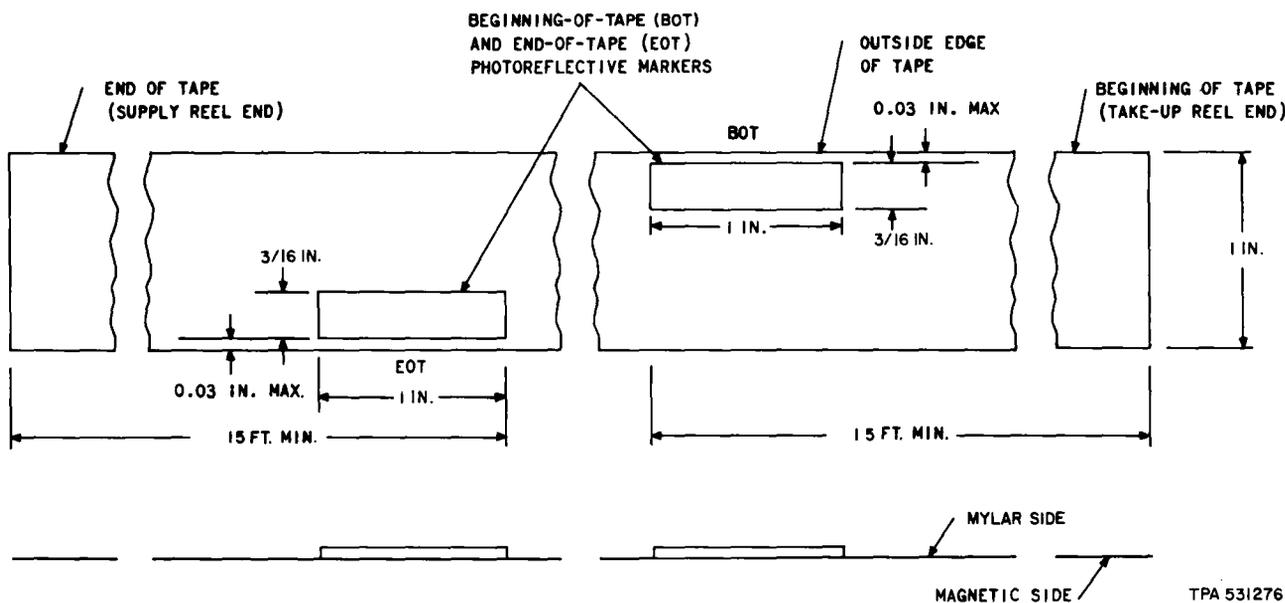
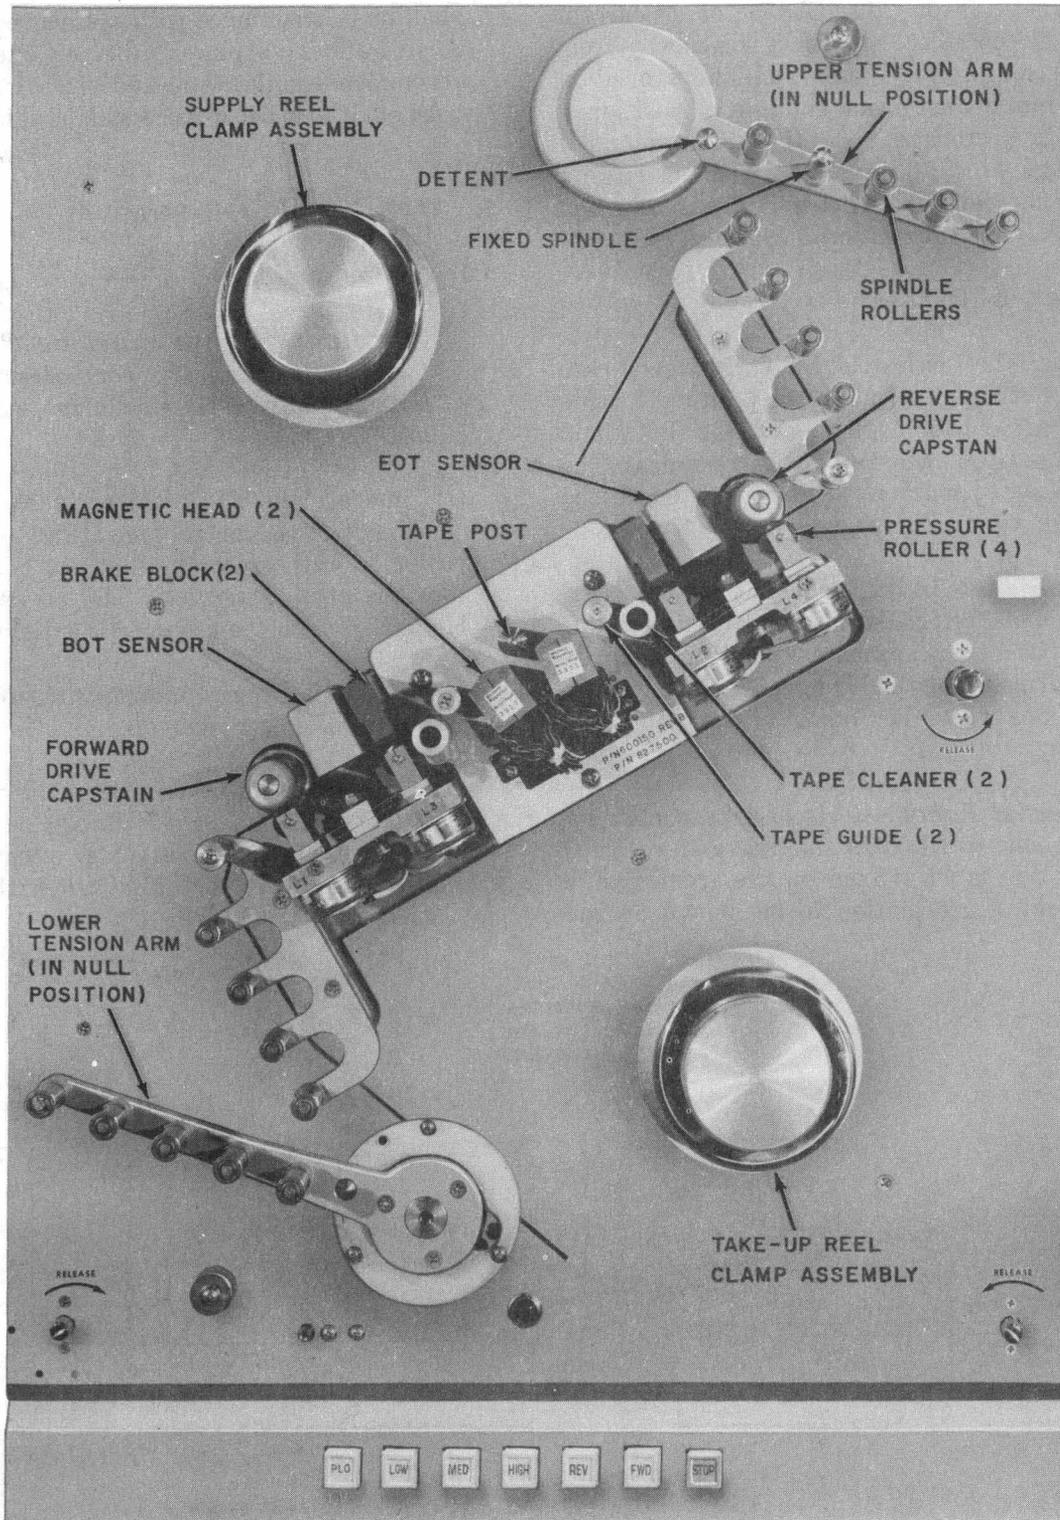
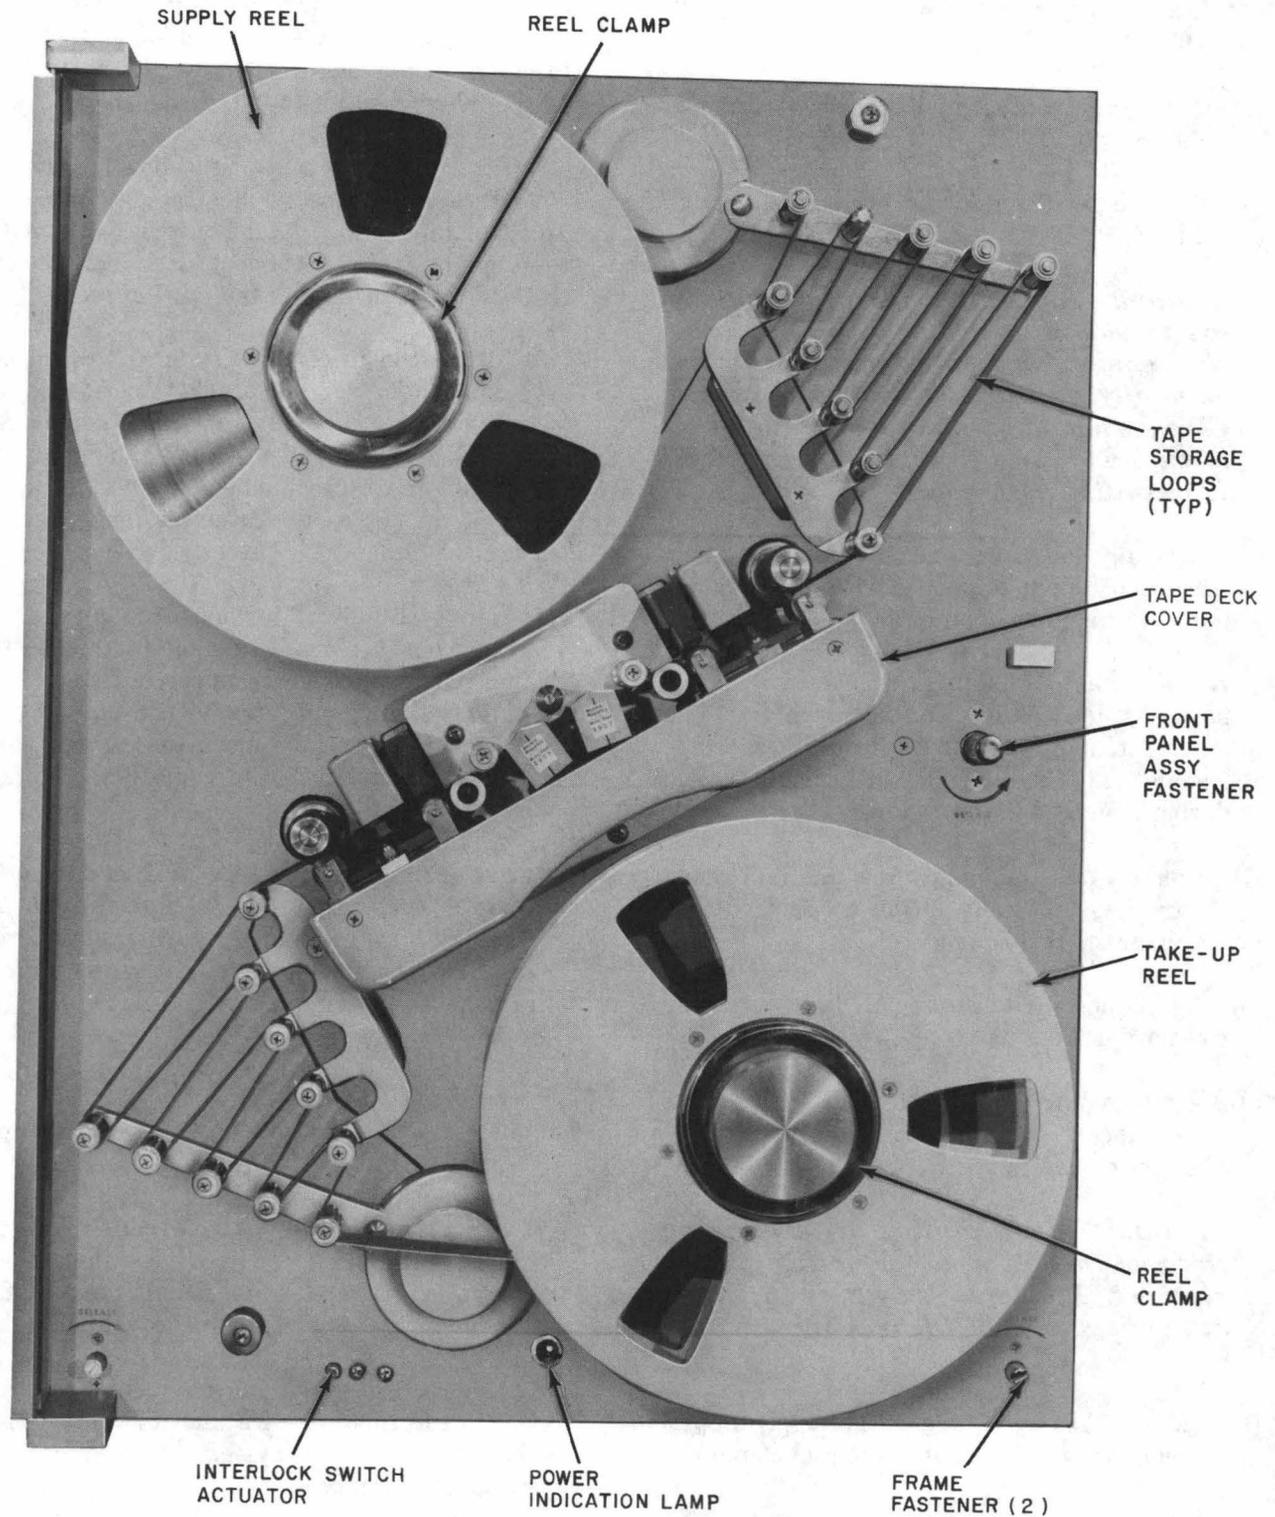
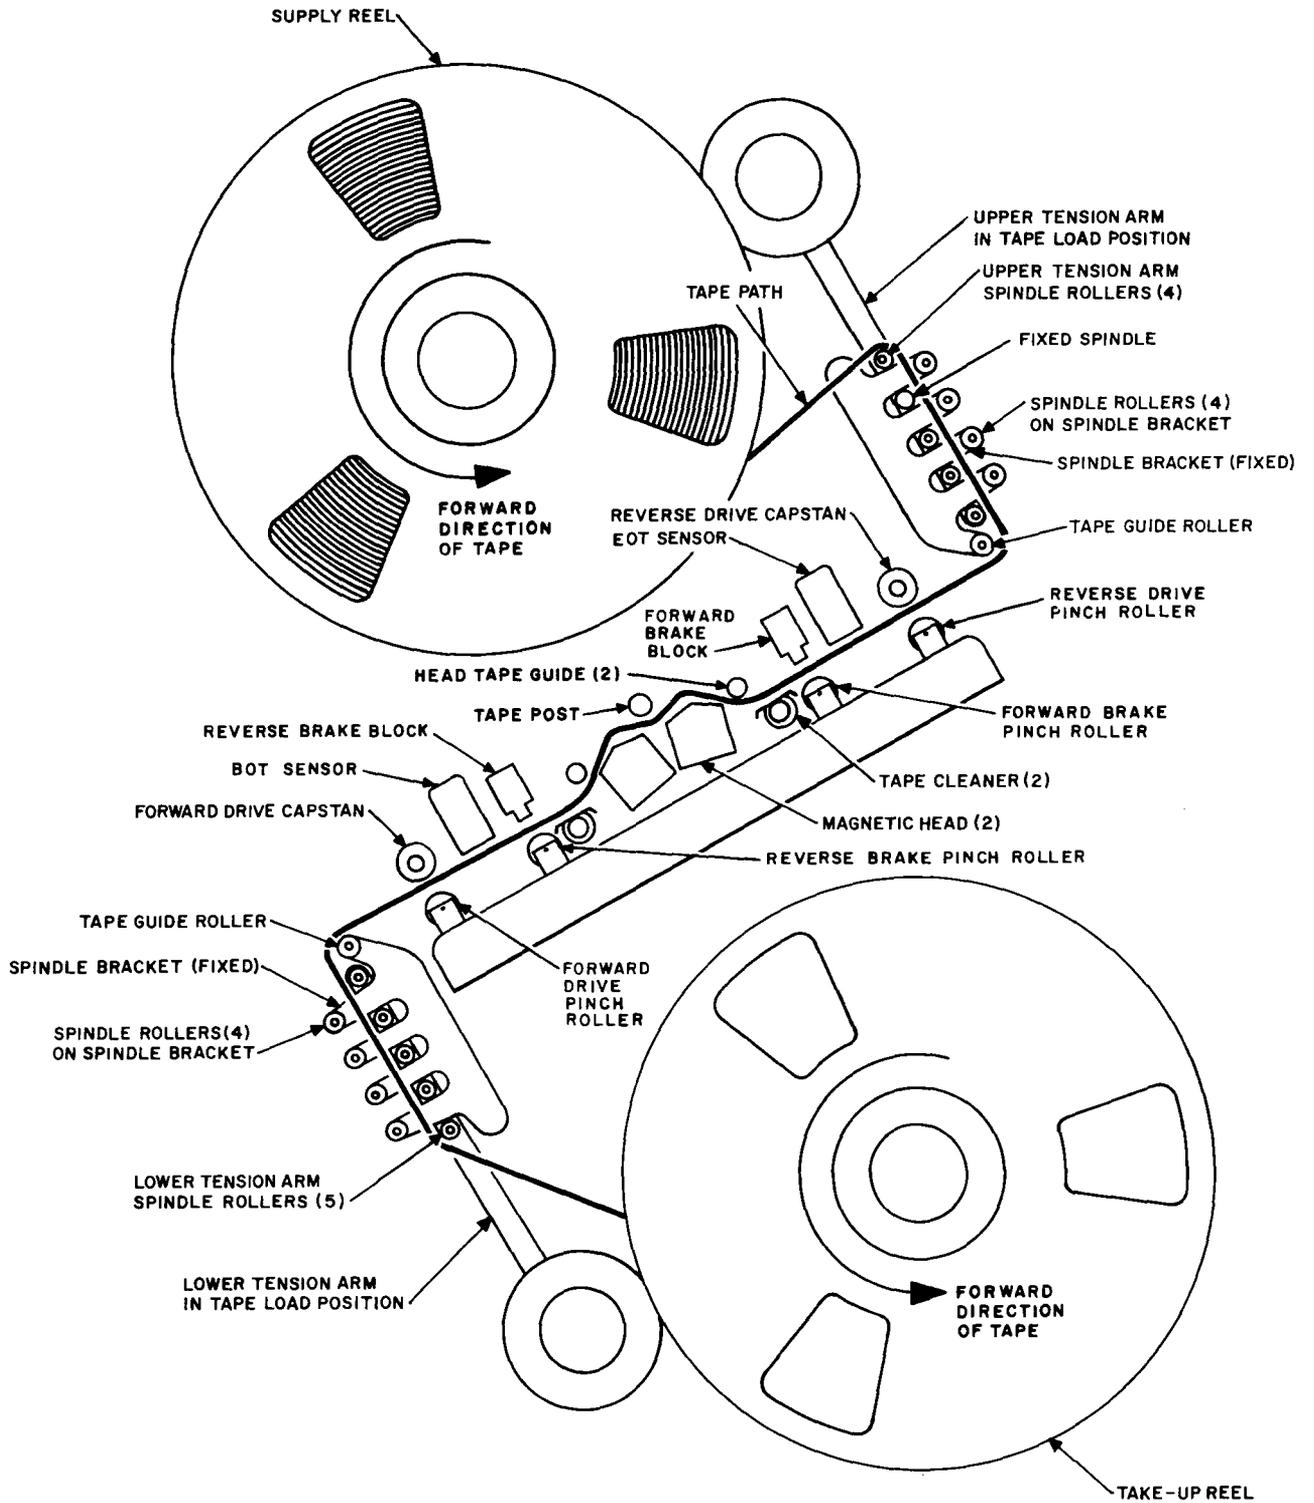

Fig. 2—Photorefective Marker Placement on 1-Inch Magnetic Tape
Fig. 3—KS-19326 L1 Recorder With Tension Arms in Center (Null) Position and Reels Removed
Fig. 4—KS-19326 L1 Recorder in Operating Position With Tape Loaded and Cover Door Open
Fig. 5—KS-19326 L1 Recorder Tape Path
3.07 Tape Drive and Actuation Control: Two capstans (Fig. 5), one for forward tape motion and one for reverse, rotate when power is applied to the recorder. The tape is moved when a control signal results in actuation of the forward or reverse drive solenoid which causes its respective pinch roller to press the tape against the rotating capstan. The tape is stopped when the control signal is removed causing the drive solenoid to release and the associated brake solenoid to actuate pressing its pinch roller and the tape against the associated brake block.
(a) **Tape:** The 1-inch wide, 1-mil thick, mylar-base magnetic tape shall have photorefective markers affixed for beginning-of-tape (BOT) and end-of-tape (EOT) sensing by the recorder. The adhesive-coated markers shall be located on the tape as shown on Fig. 2.
- Operate the PLO (power lockout) key on the recorder control panel (Fig. 3) to remove power from the recorder that has been selected for tape change service. The power indicator lamp (Fig. 4) on the recorder is extinguished.
- (3) If applicable, remove tape in accordance with 5.02.
- (4) Clean tape path components in accordance with Section 034-358-701.
- (5) Remove both upper and lower reel clamps (Fig. 4).
- (6) Manually move both tension arms to their innermost limits (tape load position) as shown in Fig. 5 and engage detents.
- (7) Mount a take-up (empty) reel and reel clamp (Fig. 4) on the take-up (lower) reel adapter and tighten the reel clamp.
- (8) Select the tape to be mounted and carefully remove it from its protective container.
- (9) When mounting a fresh tape, ensure that the tape is equipped with BOT and EOT markers as shown in Fig. 2.
Caution: *Make certain that the supply reel is mounted so that the tape feeds to the right and from the bottom of the reel. See Fig. 5 for threading guide lines stenciled on panel of tape transport. See Fig. 5 for illustrated tape path.*
- (11) Pulling from the **bottom** of the supply reel, unwind a sufficient amount of tape to serve as the tape leader for threading. Do not permit the end of tape to touch the floor.
- (12) Following the tape path shown in Fig. 5, thread the tape as illustrated. Wind 3 or 4 feet of tape onto the take-up reel by manually rotating the reel counterclockwise. This secures the leader end of tape to the take-up reel.
- (13) Move the upper tension arm toward the stationary spindle bracket to release the locking detent. Manually rotate the supply reel counterclockwise until a sufficient amount of tape is fed into the tape spindles so that the upper tension arm moves to the outer limit (against tension arm bumper).
- (14) Move the lower tension arm toward the stationary spindle bracket to release the locking detent. Move the upper tension arm to its null position forming the normal tape storage loops which will in turn move the lower tension arm to its null position with normal tape storage loops.
(1) After the system control has released the selected recorder for manual tape change service, **be sure the recorder is in the playback mode.** If the tape is to be rewound to the supply reel, operate the HIGH and REV (reverse) keys at the recorder control panel. The tape shall rewind onto the supply reel until the BOT photoreflexive marker is detected by the BOT sensor (Fig. 3). The tape stops with all the tape, except the tape leader, rewound onto the supply reel. If tape is not to be rewound to the supply reel, operate the HIGH and FWD keys at the recorder control panel. The tape stops on the EOT marker with all the tape except the tape leader wound on the take-up reel.
- (2) Operate the PLO key on the recorder control panel to remove power from the recorder.
- (3) Open the front cover door.
- (4) Lock the tension arms (Fig. 5) in the load position. Manually rotate the supply (or take-up) reel in a clockwise direction to rewind the remaining tape leader onto the reel.
- (5) Carefully hold the full reel by the hub or by the outer edge of the reel flange so that the reel cannot rotate; then loosen and remove the reel clamp. Remove the reel of tape from the recorder. If the tape removed is to be filed, place the reel in a clean dust-free container, and file it in accordance with local office procedure.
- (6) Tape loading is covered in 5.01.